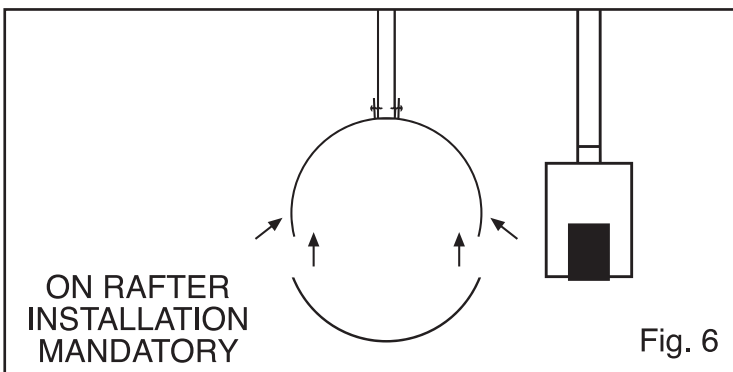

Fig. 6
STEP 7 (MANDATORY) - SECURE FLEXIBLE DUCT USING HVAC FOIL TAPE (Fig. 6)